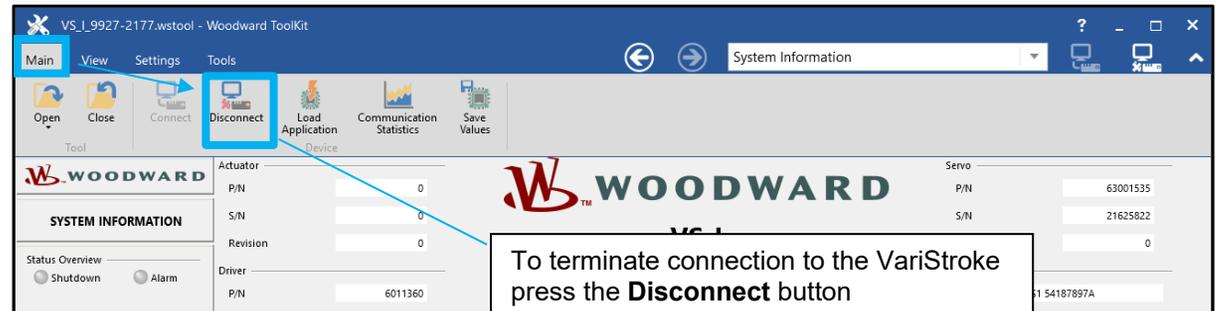

Figure 2-80. Terminating Connection to the VariStroke
70. Terminate the connection to the newly installed VariStroke by pressing the **Disconnect** button in the Customer Service Tool software (Figure 2-80).